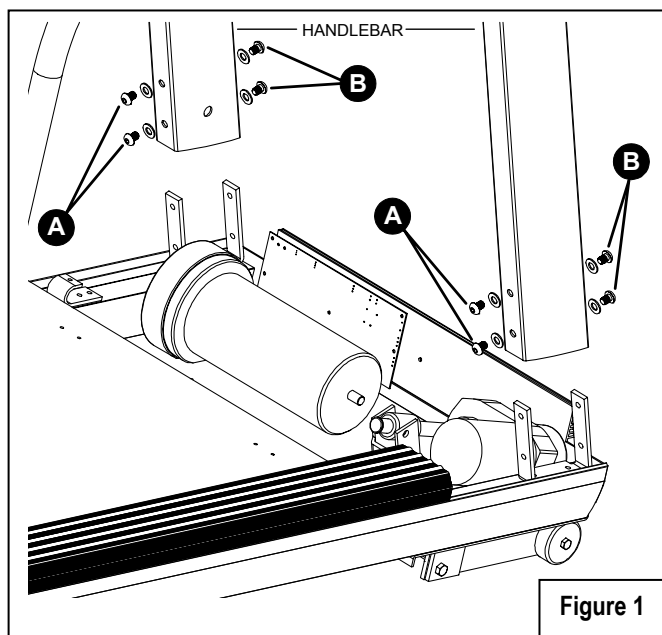

Figure 1
Step One: (see figure 1)
Carefully lower the handlebar on to its mounting brackets as shown in figure 1. The mounting brackets must slide inside the handle bar. With the handle bar in place install 2 screws (A) with washers into both handlebar uprights as shown, do not tighten these screws yet. Install 2 screws (B) with washers into both handlebar uprights as shown; **DO NOT TIGHTEN THESE SCREWS YET.**
Tighten the 4 screws (A) as shown in figure 1.
Tighten the 4 screws (B) as shown in figure 1.